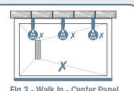

Fig 3 - Walk-in - Center Panel
Never fit a front screen only - See Fig 3
- If bends are required along the outlet piping, please ensure that curved connectors. (see **Figure 2**) and **NOT** straight angles (see **Figure 3**) as these will restrict the water flow.